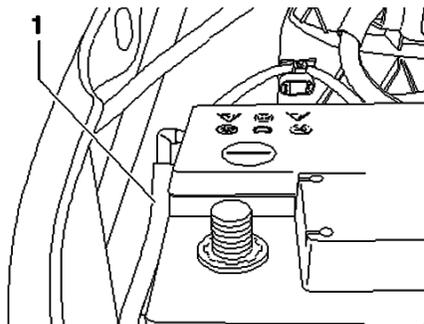

Fig. 3 Central venting hose removal
8. Remove central venting hose (1) from battery connection, **Fig. 3**.